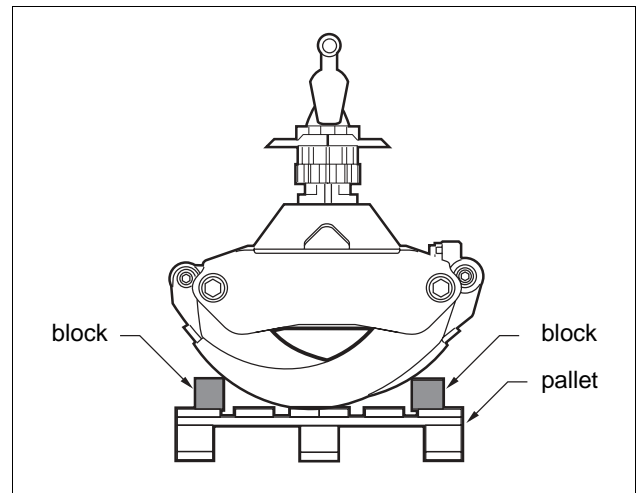

Fig. 35 Place the grapple on a firm base
2. Place the grapple on a firm base. *See Fig. 35.*